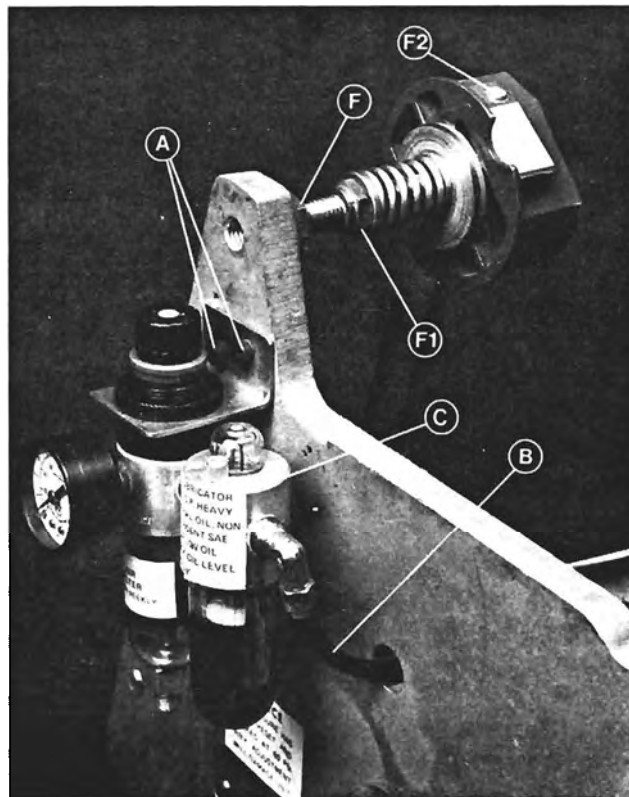

FIGURE 3 INSTALLATION - AIR CONTROL -
- A. Refer to Figure 3 and assemble the two 10-32 UNF x 1/2 lg. screws (A) and lock washer in the mounting holes provided. Secure the air control unit in a vertical position for proper operation.
- B. Connect and secure the air line (B) from the right side to the air lubricator (C).
Tape Width - The tape drum is assembled at the factory for 3/8 inch [9 mm] and 1/2 inch [12 mm] wide tapes. For 5/8 inch [15 mm] tapes the retainers (F2, figure 3) must be moved to the secondary position on the tape drum. This is done by removing the two screws securing each retainer, relocating the retainer and replacing the screws.
Tape Roll Tension - The friction brake on the tape drum assembly controls the tape roll tension to prevent overtravel. The tape roll friction brake has been preset and requires no further adjustment. If the drum assembly is replaced or comes out of adjustment, refer to Figure 3 and adjust as follows to obtain the proper tape roll tension.